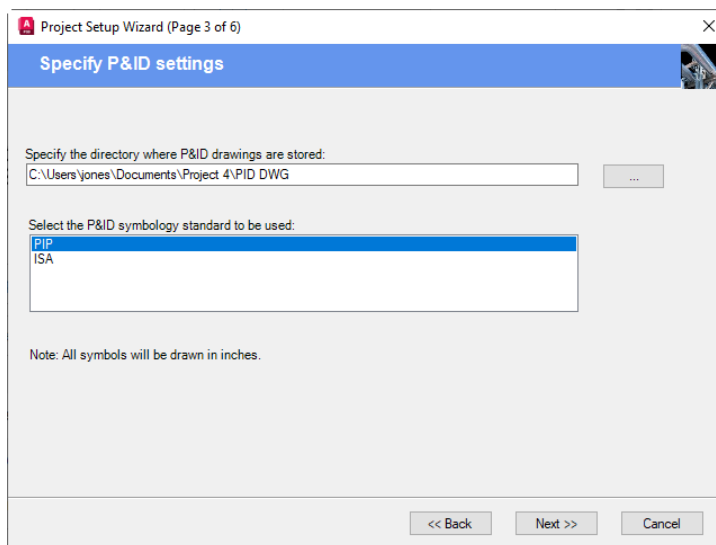

Figure 2-4 The Specify P&ID settings page
4. Choose the **Imperial** radio button, if not chosen by default, and then choose the **Next** button; the **Specify P&ID settings** page will be displayed, as shown in Figure 2-4.